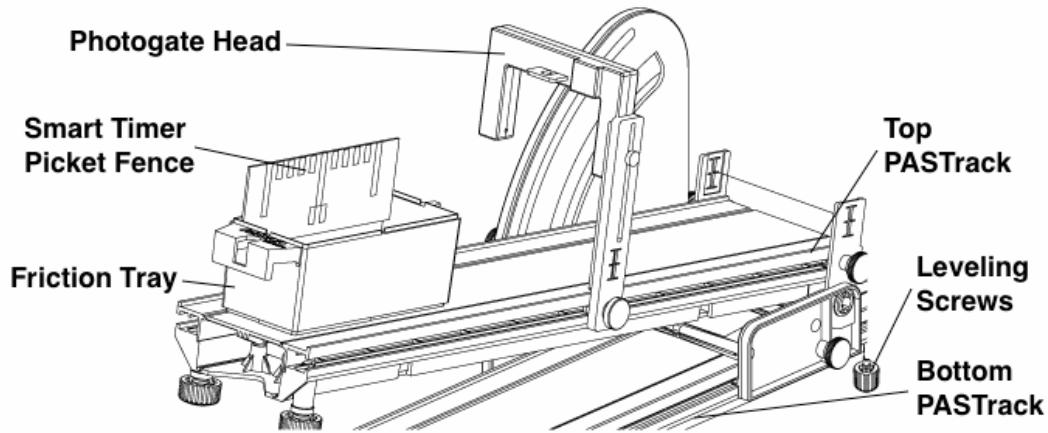

Figure 5: Inclined Plane Apparatus. Angle should be read from top of PASTrack (see physical apparatus).
1. Set up the PASTrack and Inclined Plane Accessory as shown in Figure 5 with a Photogate Head and Photogate Bracket. Elevate the PASTrack to a shallow angle (a few degrees).